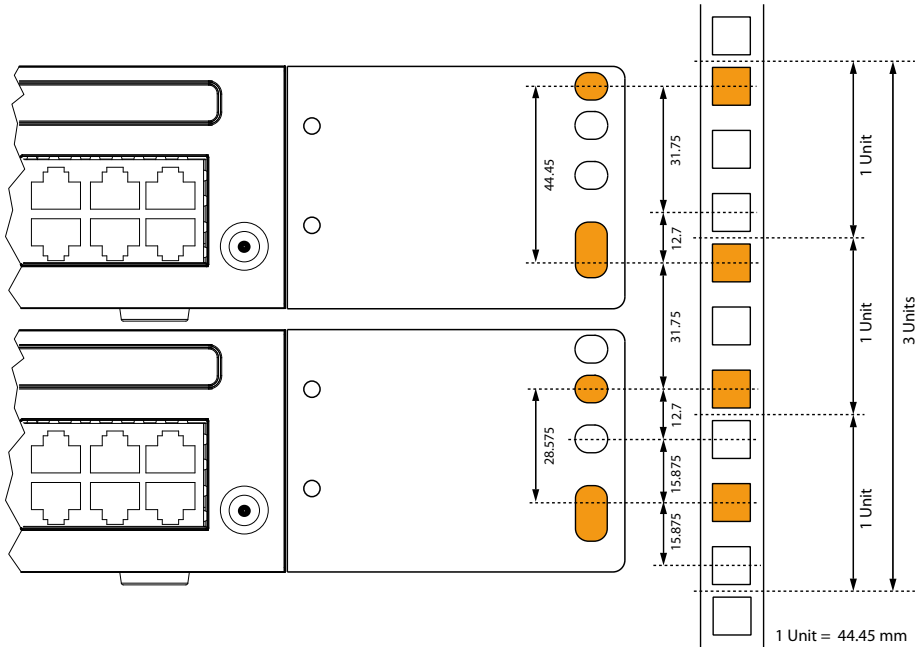

Fig. 16 Placing two communication servers above each other inside a 19" rack
- The holes in the mounting plates allow two communication servers to be placed directly above each other with a space requirement of three units. Different holes in the mounting plates are used for this purpose (see Fig. 16).
8. Secure the cage nuts in the appropriate positions in the rack's fastening rails (see Fig. 16).